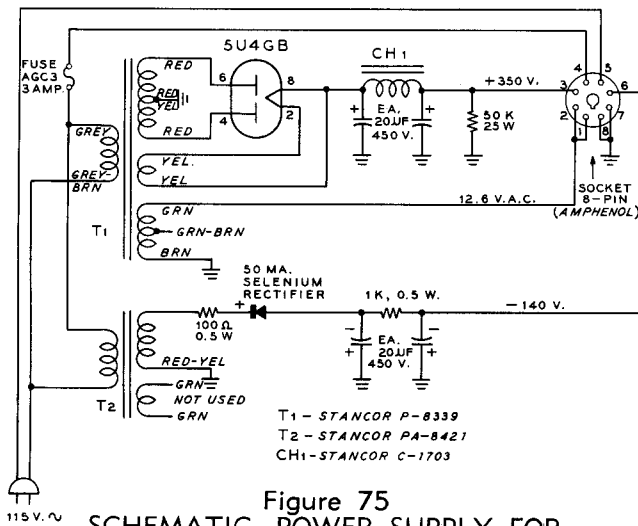

Figure 75
- A—Power plug modification for 522 transmitter, for use with a.c. supply shown in figure 75.
See figure 75 for